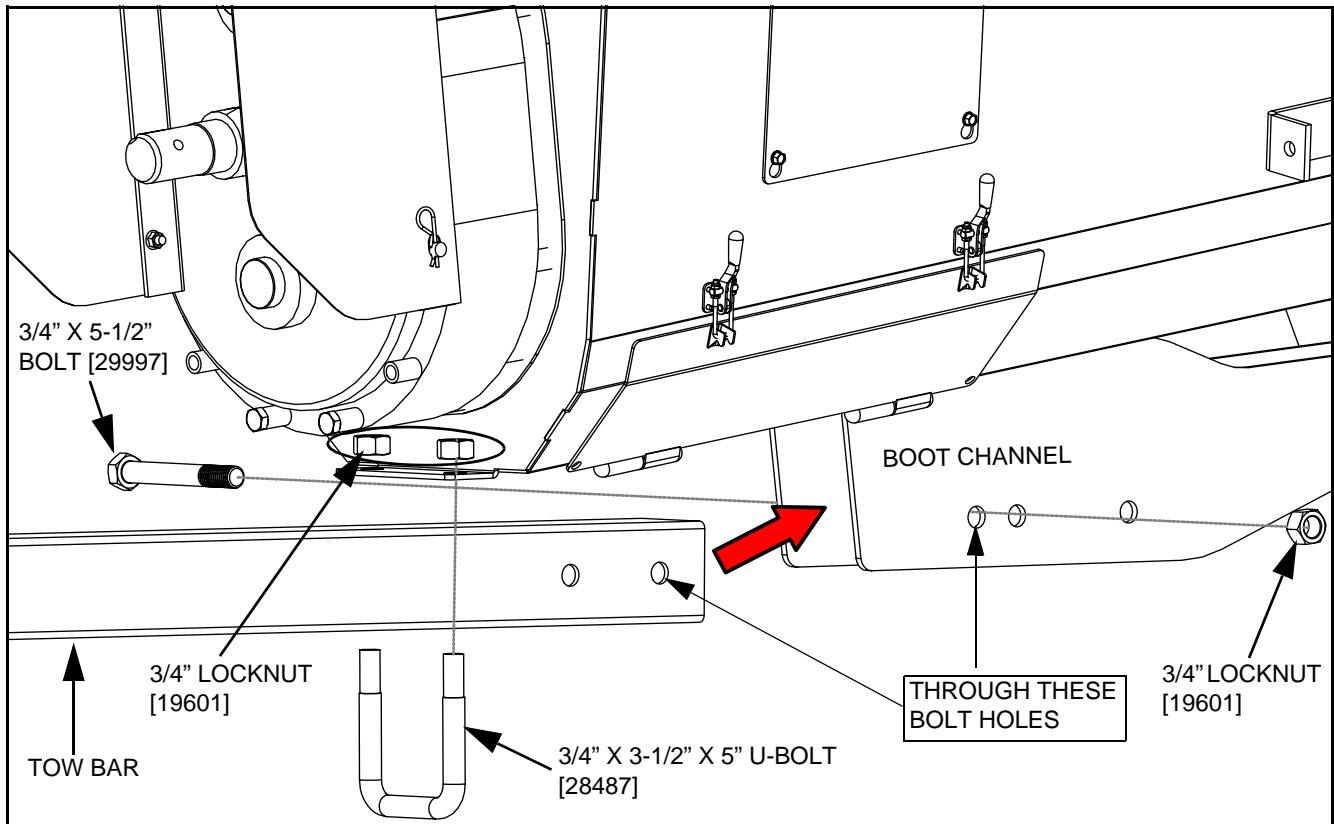

Figure 4 Installing Tow Bar
12. Remove the 3/4" x 5-1/2" bolt from tow bar (see Figure 4).